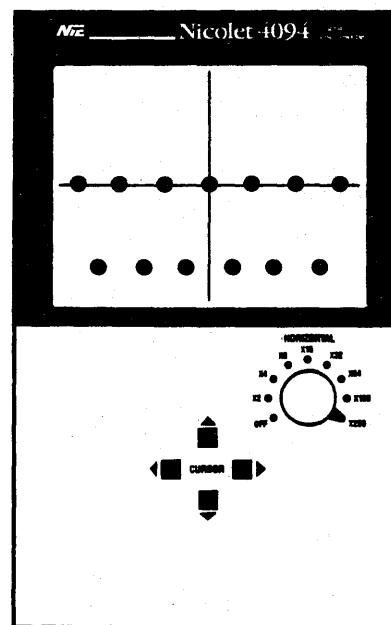

Figure 6-6
- #8. Place the HORIZONTAL EXPANSION switch to the X256 position (Figure 6-6).
- #9. Tap the LEFT or RIGHT cursor buttons again (Figure 6-6).
- #10. Tap the LEFT/RIGHT cursor control several times (Figure 6-6).